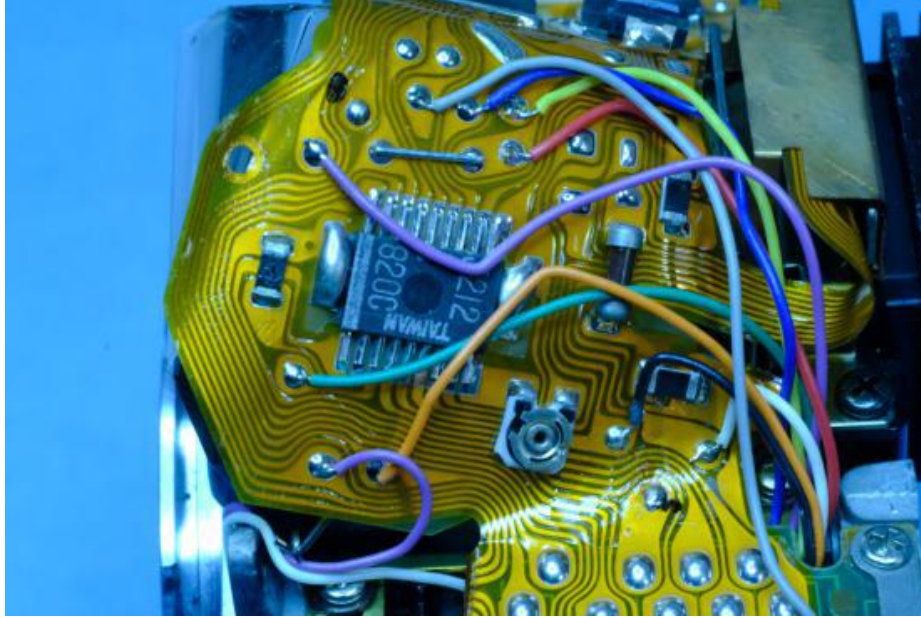

Fig.4
- 5 - Unsolder wires from top of FPC (fig. 4)
2 - Route the wires to the back of the FPC (fig. 4) as you seat the front plate/mirror unit.